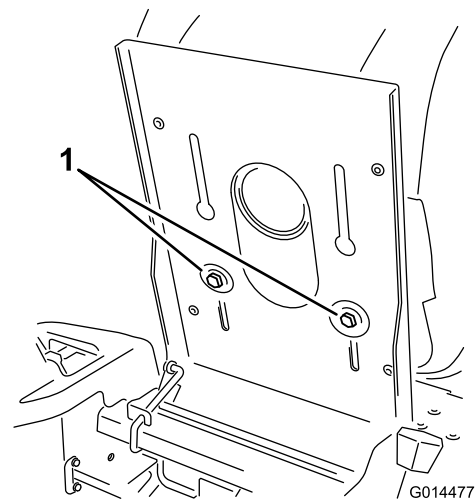

Figure 22
- Upper hole—use this position with the mower deck in the 63mm (2-1/2 inch) and below height-of-cut positions (Figure 22).
- Lower hole—use this position with the mower deck in the 76mm (3 inch) and above height-of-cut positions (Figure 22).
1. Raise the seat and loosen the adjustment bolts just enough that seat can move (Figure 22).